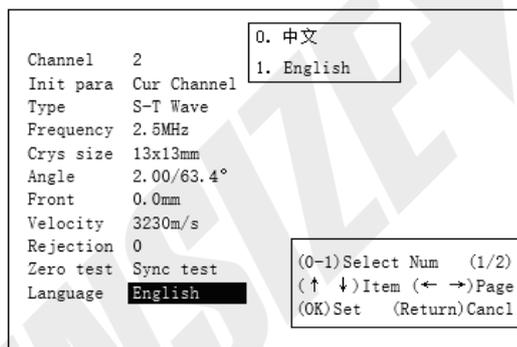

Figure2-19
2.2.7.11 Language Selection: Press to display Chinese, as shown in Figure 2-19.